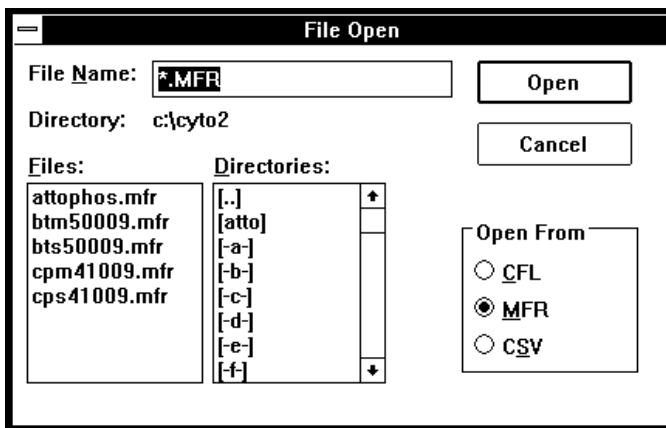

Figure 3-1 File Open Dialog Box
1. Select **Open** from the **File** menu (Alt, F, O). The File Open dialog box appears (Figure 3-1).